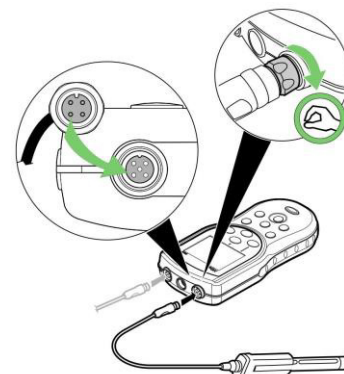

Figure 8: Connecting the probes to the meter
3. Carefully connect dissolved oxygen and conductivity probes by aligning the notch on the probe's end to the notch on the meter (Figure 8).